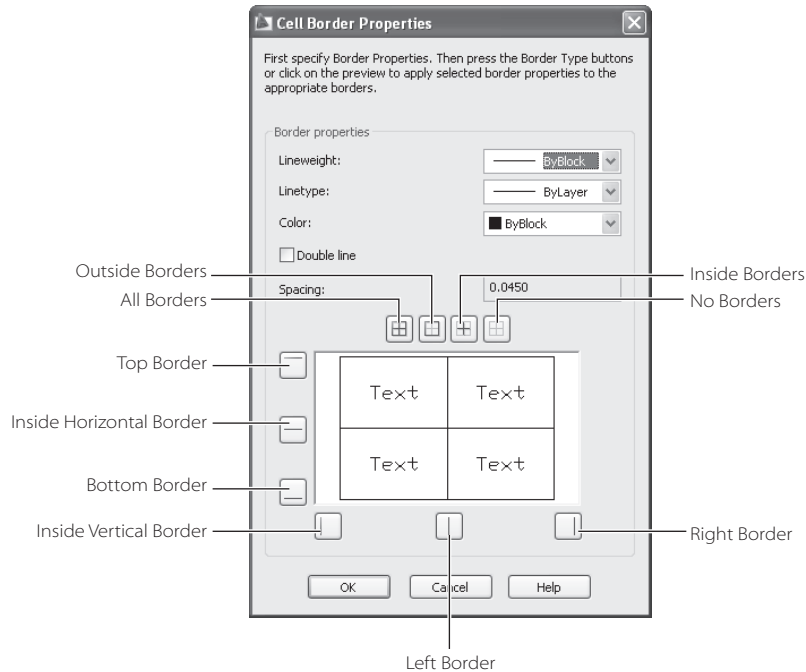

Figure 9.28
2. From the **Table** tab's **Cell Styles** panel, choose **Cell Borders** to open the **Cell Border Properties** dialog box (see Figure 9.28). You can use this dialog box to fine-tune the appearance of the line work of the table.
4. Select the line you want to change by clicking one of the line tools that surround the sample graphic (shown in Figure 9.28.) For example, you can click the Outside Borders button to change the line weight of the outermost borders of the cell or group of cells.